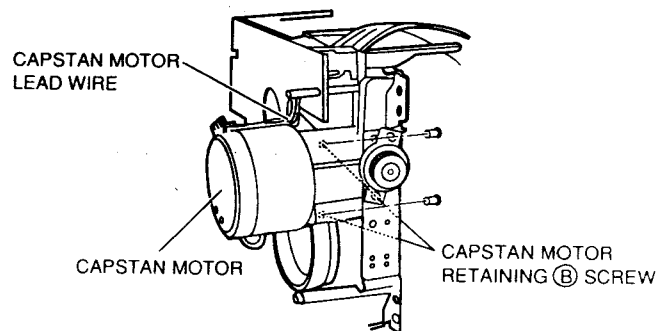

Fig. 3-6
- 1) Remove the CAPSTAN MOTOR RETAINING (B) SCREWS. (refer illustration Fig. 3-6)
- 3) Remove the two MOTOR PCB RETAINING (C) SCREWS and separate the MOTOR PCB from the MECHA BLK. Replace the DRIVE BELT.